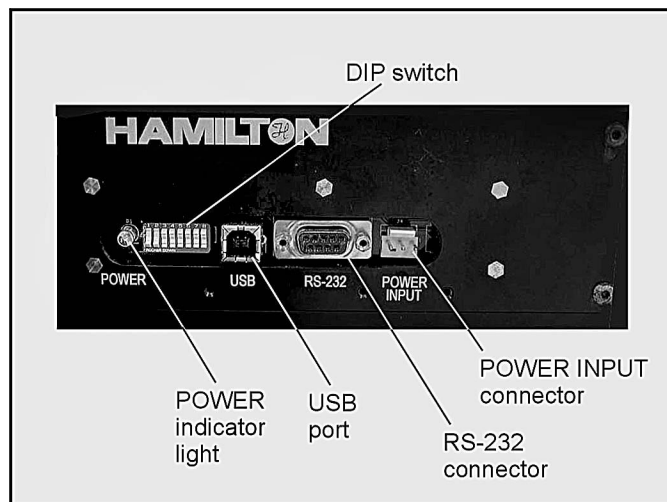

Figure 7: DIP switch location
1. Locate the DIP switch on the left side of the carousel housing assembly (figure 7).
1. Connect the USB cable (4427-02) to the USB port of the carousel housing assembly (refer to figure 7).